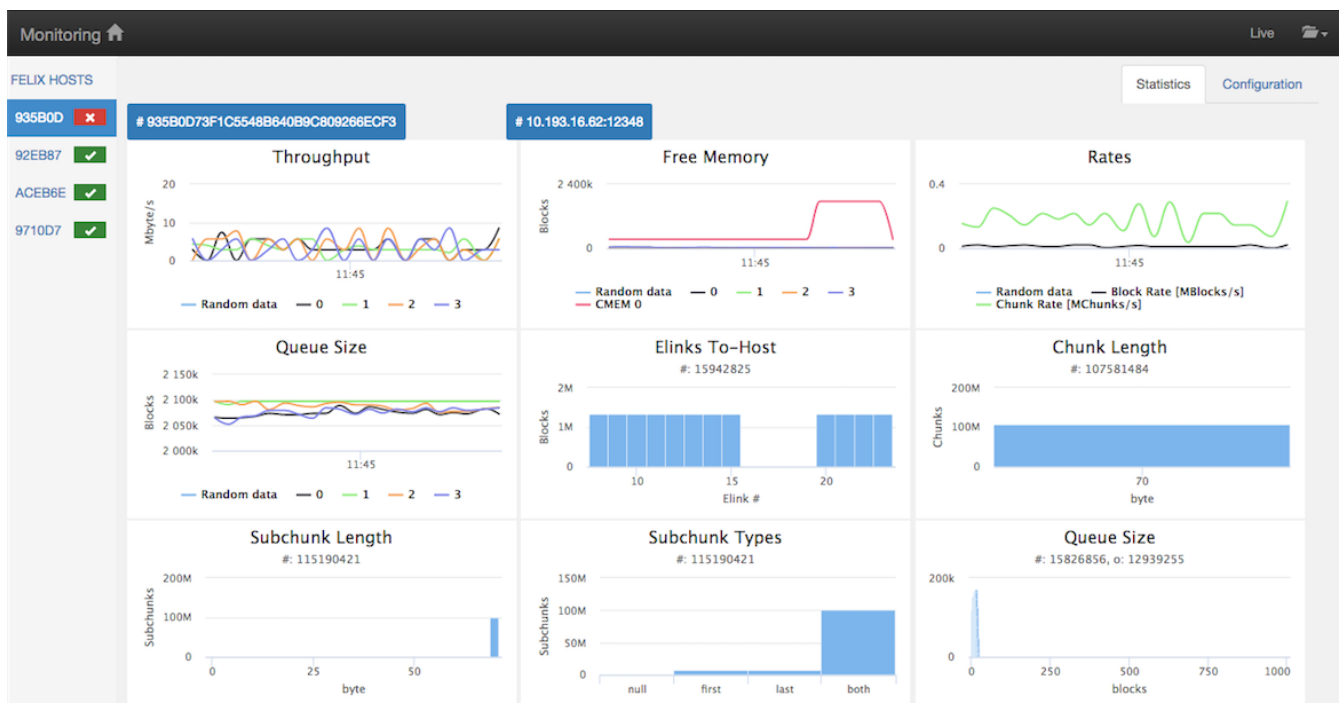

Figure 46. felix-web-mon front page.
When installed on a machine (see README.md in gitlab for detailed installation instructions), the web application can be accessed under the address <hostname>:8000. Here users will be presented with a front page as shown in Figure 46.
- Menu bar: as shown on the top left of Figure 46. A simple menu with 2 links: a folder icon for history data plots, and a live link to come back to live mode.
- Charts area: In this panel there are tabs Statistics, Configuration and History (hidden by default) for each connected FELIX host. The Statistics tab (Figure 46), loaded by default, shows live charts of metrics. Clicking on an item in the FELIX hosts list on the left displays the chart area of the corresponding host.